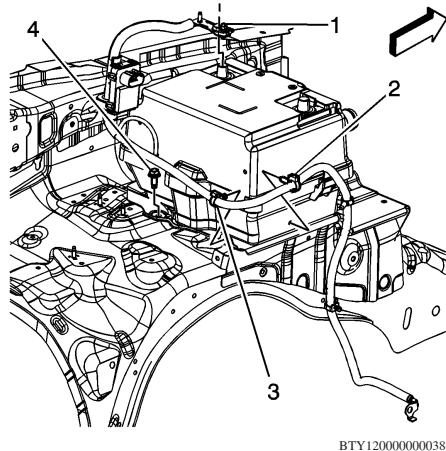

Fig. 1 Battery ground cable removal
5. Disconnect battery ground cable (1) from battery, **Fig. 1**.
10. Connect battery ground cable (1) to battery, **Fig. 1**. **Torque** battery cable nut to 80 inch lbs.